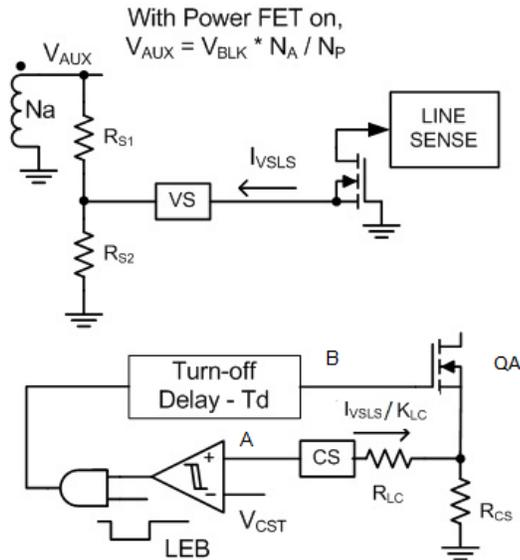

Figure 5, Peak Current Limit Comparator
Resistor  $R_{LC}$  provides offset to the peak current comparator input (CS).  $R_{LC}$  is adjusted to terminate the gate drive signal (B) early to prevent primary current (A) from over shooting [1]. Please refer to figures 5 and 6 for details.